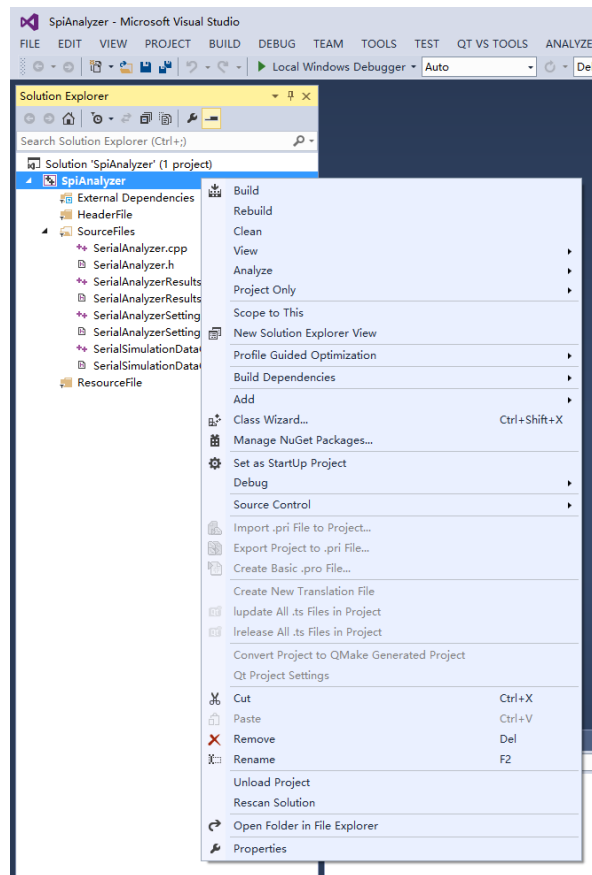
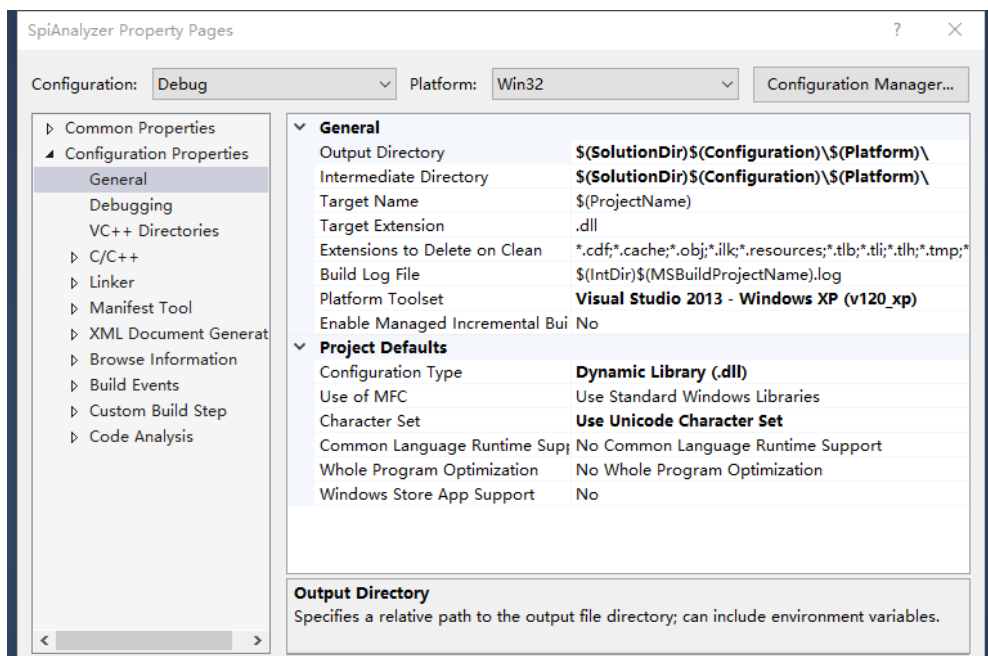
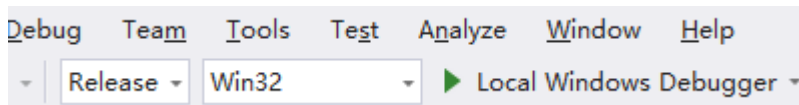
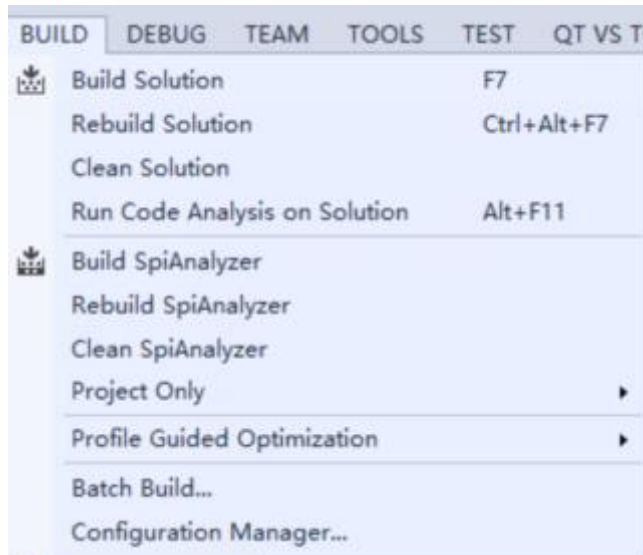

Fig.7
Fig.8
Fig.9
Fig.10
5. After completing the above steps, the project is set up, and the next step is to generate a 32-bit or 64-bit DLL file in Release mode, you can use logic analyzer software to determine which one you need, if you are using 64-bit software You need to generate 64 bits and vice versa 32 bits. You can set the DLL file's name by right click the project name ,then click **Properties** in the menu that appears, as shown in Figure 7 and change file name in **Target file name** ,as shown in Figure 8. When generating a 32-bit DLL file, firstly, configure it in **Release** and **x86 mode**, as shown in Figure 9, and then select **Generate** -> **Generate Solution** in the menu bar, as shown in Figure 10. When generating a 64-bit DLL file, firstly, configure it in **Release** and **x64 mode**, as shown in Figure 9, and then select **Generate** -> **Generate Solution** in the menu bar.